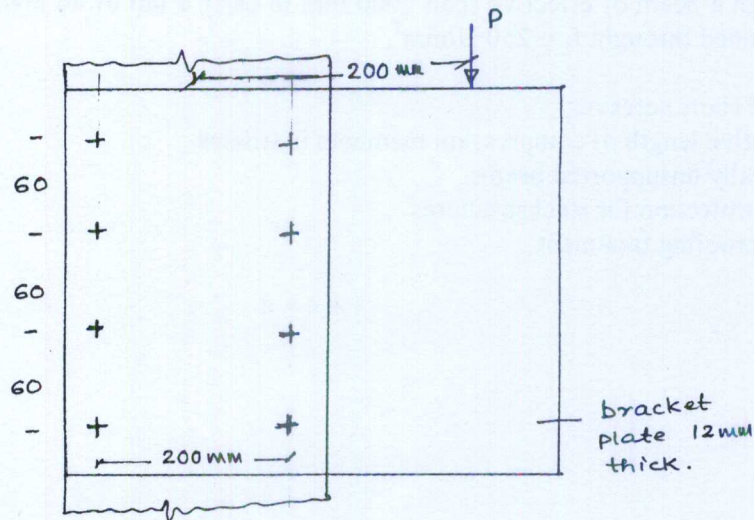

Fig.Q2
**2. Use of IS 800 and SP-6(1) permitted.**
- 2 Calculate the design load ‘P’ for the joint shown in Fig.Q2. 18 mm dia grade 4.6 bolts are used.